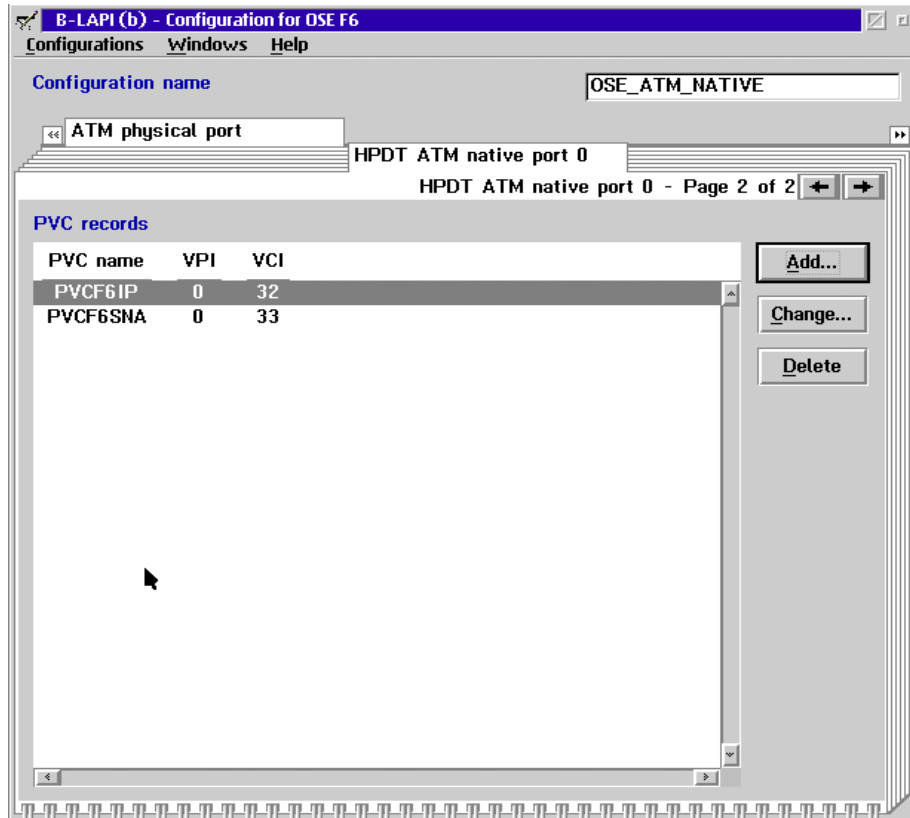

Figure 8-8 HPDT ATM native port - PVC records
12. Figure 8-8 on page 108 shows the completed entries for the PVC records.